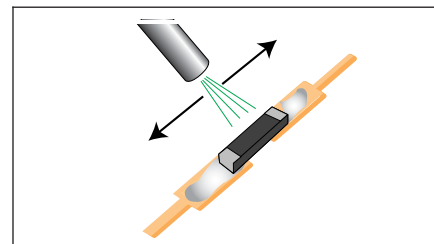

Figure 3 Pre-dry Paste
6. Direct hot air over component with tip at a distance of 2.5 cm to pre-dry solder paste. (See Figure 3.)